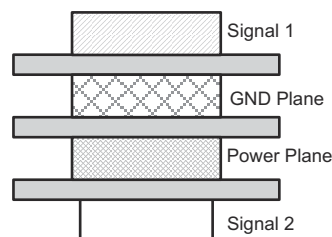

Figure 13-1. Four-Layer Board Stack-Up
8. Due to high frequencies associated with the USB, a printed circuit board with at least four layers is recommended; two signal layers separated by a ground and power layer as shown in Figure 13-1.